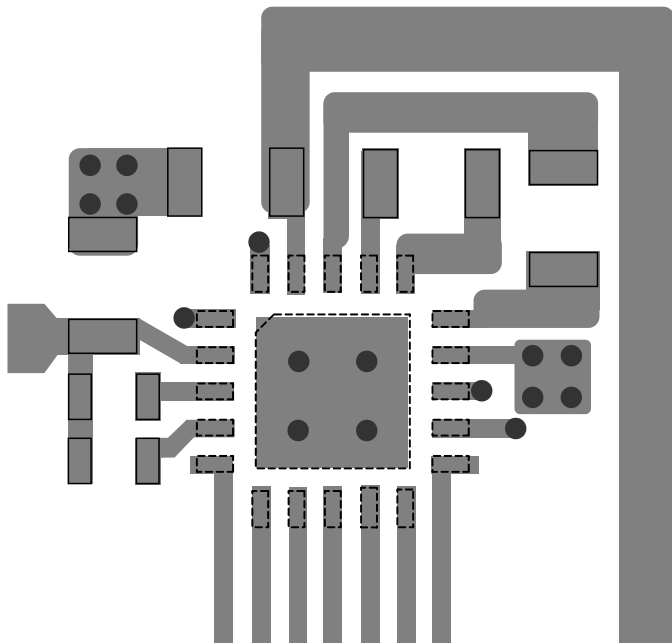

Figure 3 — Layer 1
- Figure 3 shows the pads on layer 1 that should be connected with vias to layer 2. C_{IN} , C_{OUT} and the GND pin all use vias to connect to the ground plane.